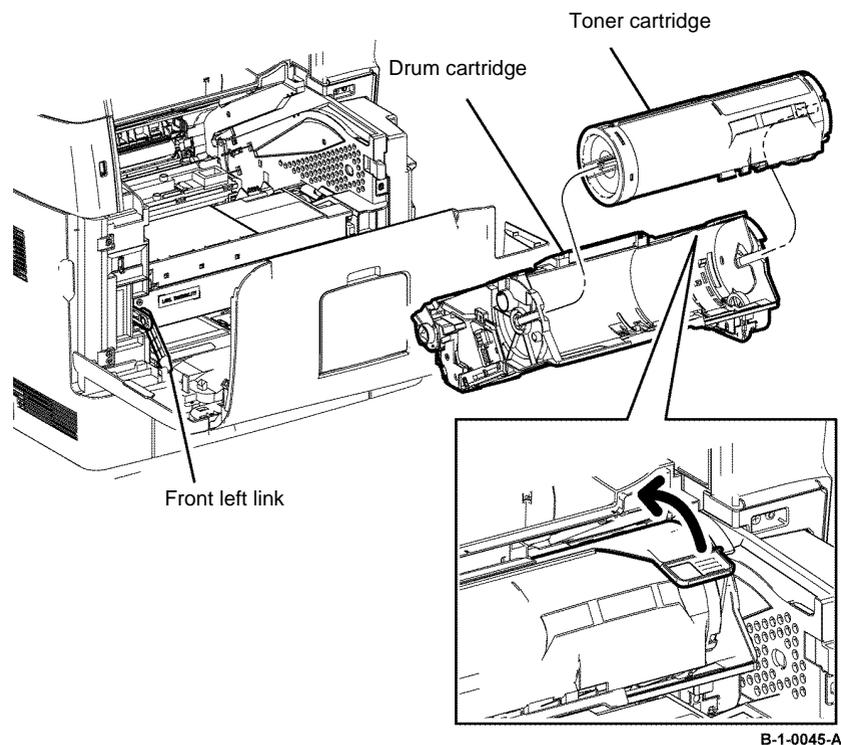

Figure 1 Drum cartridge removal
3. Remove the drum cartridge, Figure 1.